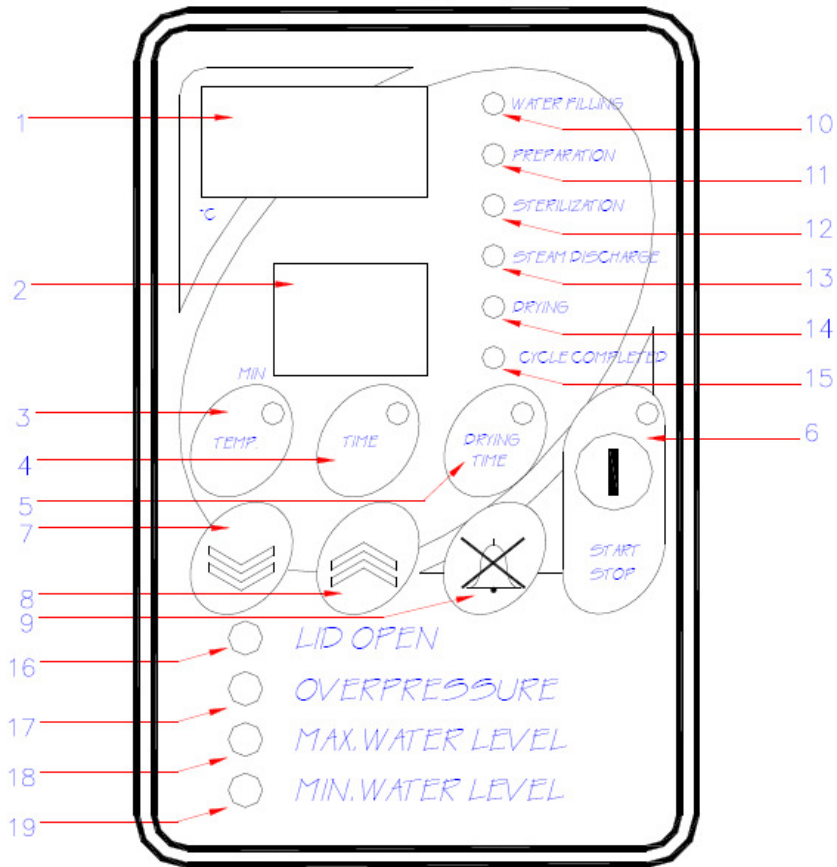

Figure 2- OT 020V
4.2.2 OT 020 V (Figure 2)
- Press “start-stop” (6) and pass to the 1st parameter and repeat this (press start-stop) until you reach to the 7th parameter.
- At the 7th parameter press “stop” (6) continuously until you see “LC1” on the temperature display.
- Press “time set” (4) you first see “HC1” on the temperature display, press “time set” again this time you see “LC2” on the temperature display, press “time set” again you see “HC2” on the temperature display. For the last time press “time set” and you see “JC” on the time display.
- Press “start-stop” (6) and change the value that appears on the time display according to the difference between the equipment’s display and the external sensor.